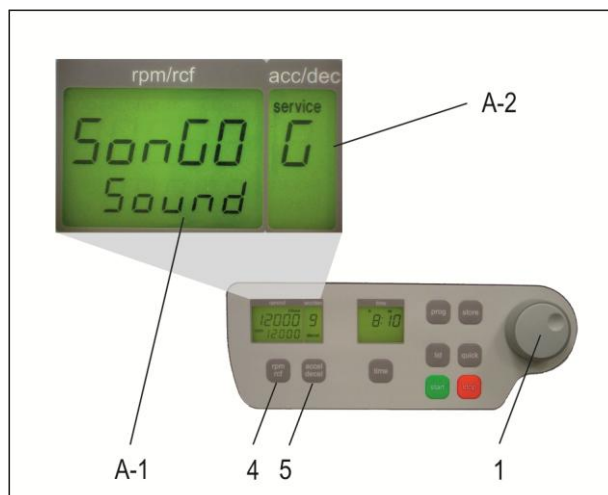

Figure 6
Proceed as illustrated, under point 1.8.1, to enter this program mode, press the key, "accel/decel" (5). In the display, "accel/decel" (A-2) flashes the word, "service". Select the letter, "G" with the adjustable knob (1). As a result, appearing in the display, "rpm/rcf" (A-1), the word "SonGo/Sound". After pressing the key „rpm/rcf“ (4), select a song with the adjusting knob (1), (see Figure 6).